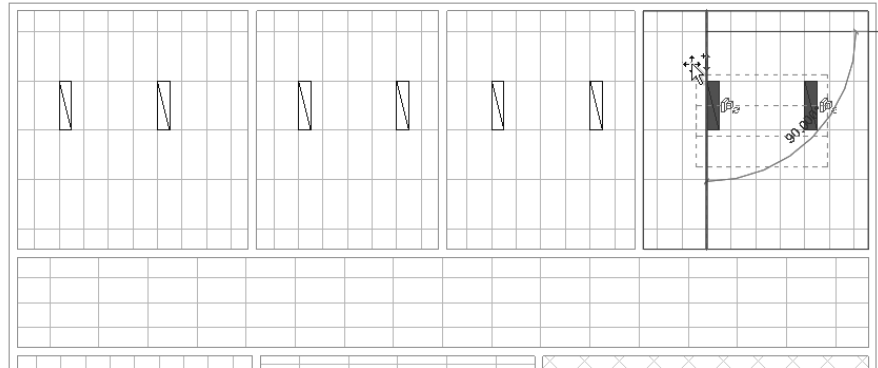

Figure 2–65
2. Copy the lighting fixtures to the other rooms on the same side of the hall, similar to the example shown in Figure 2–65.